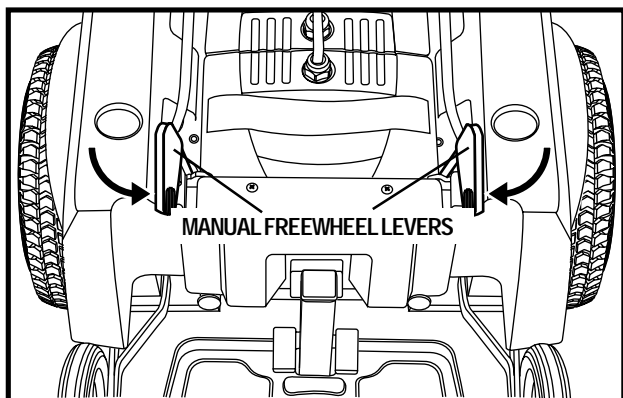

Figure 8. Drive Mode (Drive Engaged)
For convenience, your power chair is equipped with two manual freewheel levers—one for each motor. See figures 8 and 9. These levers allow you to disengage the drive motors from the gearboxes and maneuver the chair manually. This is called freewheel mode.
1. Rotate the manual freewheel levers inward to engage the drive motors and place your power chair in drive mode. See figure 8.